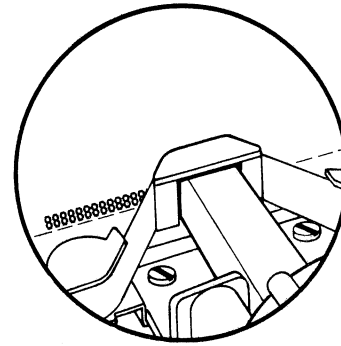

Figure 5-4. Printhead Positioning to Set Bottom of Form
6. Depress **LINE FEED** key to advance paper to the last line of the form as illustrated in Figure 5-4.